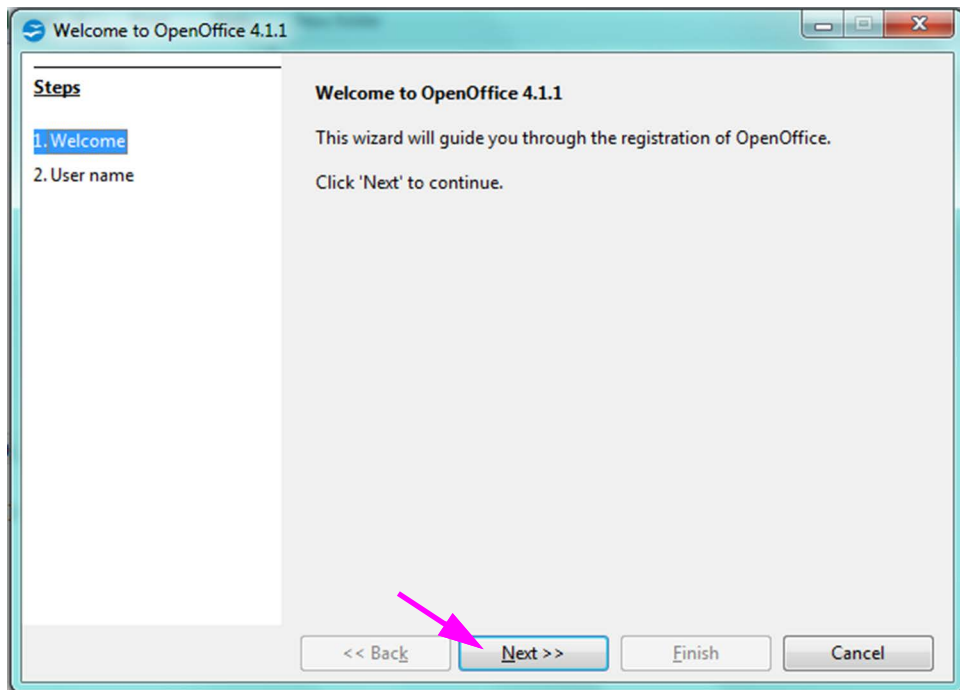

Figure D-2. AOO Registration Screen
2. On initial startup of AOO, a registration screen will appear. See Figure D-2.